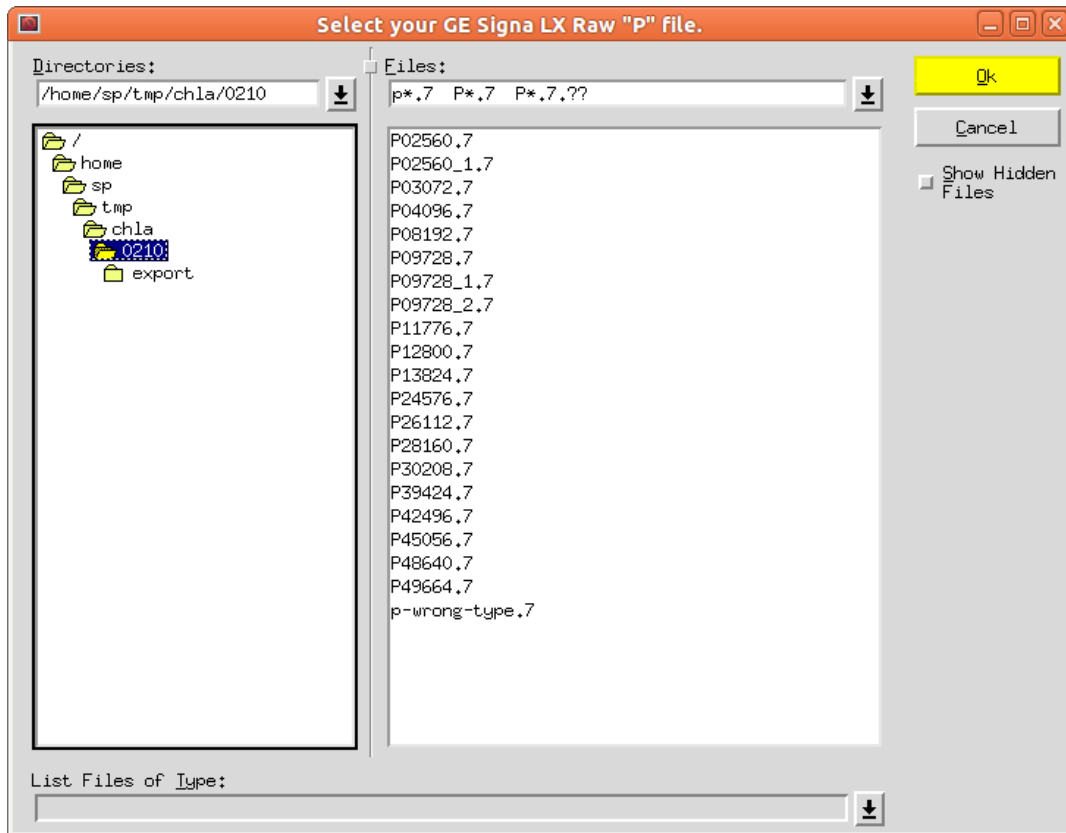
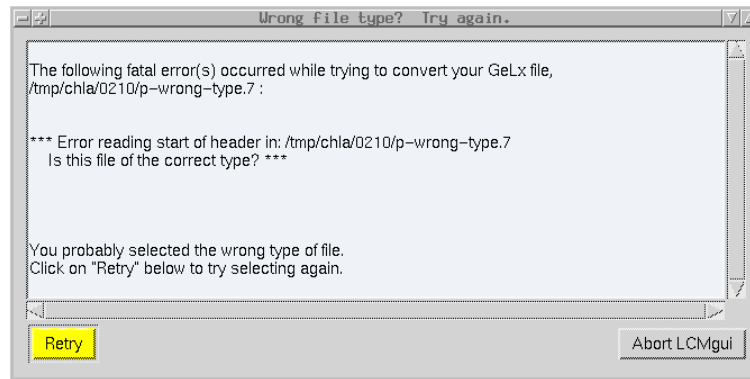
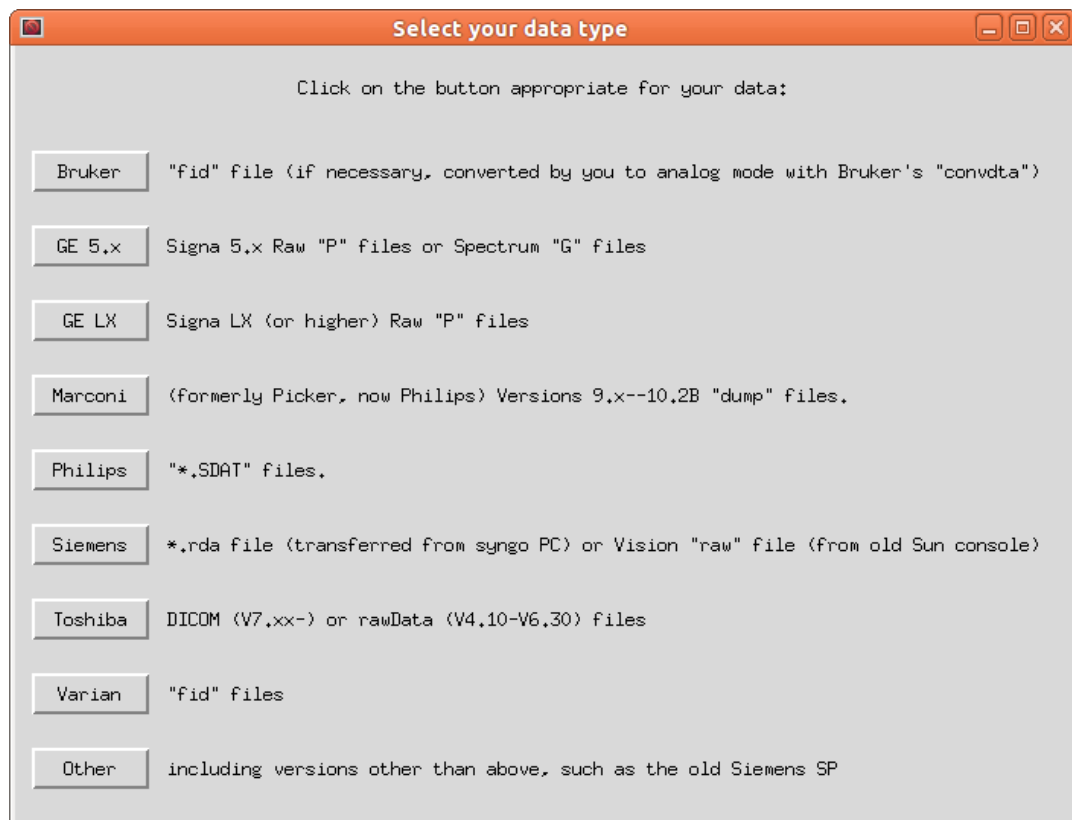
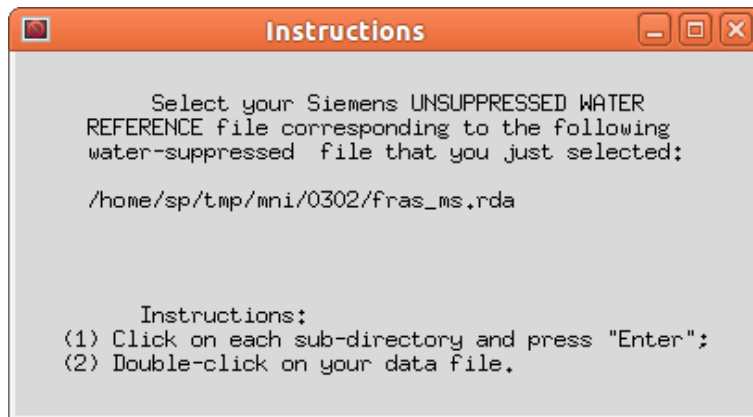

Figure 6.1: The File Selector, shown here for GE LX files
Figure 6.2: You selected a file of the wrong type in the File Selector
Figure 6.3: Note that GE Signa 5.x and LX (or higher) have distinct buttons.
Figure 6.5: The instructions-part of the File Selector for the unsuppressed water reference.
- Select the file containing the data to be analyzed (Fig 6.1 in Sec 6.2.1).
When LCMgui is started, the first window that appears is usually the *File Selector*. An example with GE Signa LX data is shown in Fig 6.1. With data from other manufacturers, the title, “Select your GE Signa LX ...” will be different. LCMgui remembers the directory where the data file was in the last run, and the File Selector starts there.
If the last LCMgui session did not use Bruker, GE, Marconi/Picker, Philips, Siemens, Toshiba or Varian data, then the window in Fig 6.3 will appear first. You normally then click the “Other” button in Fig 6.3, as you did in the previous session.
You first navigate through the directory tree. When you click on a directory, its files are listed in the right pane (the stage shown in Fig 6.1). You then click on the filename that you want to use and click the yellow “OK” button at the right (or simply double-click on the filename).
Only filenames that match the filter shown at the top of the pane of filenames (p\*.7, P\*.7 or P\*.7.??) in Fig 6.1) are displayed. If your filename differs from this standard (e.g., if you analyzed GE Signa 5.x data last time and LX data this time), then it will not be listed. You can change
If the filenames or directories in Fig 6.1 are so long that they are cut off, then the width of the panes can be adjusted by holding the left mouse button down on the small square at the top on the pane boundary (between “**Directories:**” and “**Files:**”) and dragging the pane boundary. (You can also simply use the scroll bar that appears at the bottom of the pane when names are too long.)
LCMgui remembers what type of data was analyzed from this account and User Profile the last time, and it expects the same type this time. You therefore get a window like Fig 6.2 if in the File Selector you:
- Select a completely irrelevant file (e.g., `p-wrong-type.7` in Fig 6.1 to produce Fig 6.2).
Otherwise, click the yellow “Retry” button in Fig 6.2. A window like Fig 6.3 appears. Here you click on the appropriate type of data. The File Selector then returns, giving you another chance to select your data file.
**Select unsuppressed water reference file** If the “Do eddy-current correction” button is active (blue), the File Selector window appears (unless you have Marconi/Picker files or GE Probe P-files, which already contain the water reference). It is exactly as in Fig 6.1, except for the window of instructions at the upper left (Fig 6.5). As you can see from Fig 6.5, the filename of your currently selected water-suppressed data is shown, and you must select the corresponding unsuppressed data file.
- (1) **File Selector.** You select the file containing your (binary scanner) data to be analyzed with the window in Fig 6.1.
- (2) **Data Conversion.** A program is executed to produce the LCModel `.RAW` file and any available Control Parameters (e.g., `NUNFIL`, `DELTAT`) from the file selected in Step (1). You can specify this program to be the standard LCMgui program for the standard Bruker, GE, Marconi/Picker, Philips, Siemens, Toshiba or Varian files (Sec 3.7). However, there is also an “Other” button to use a script supplied by you for another type of file.
- (3) **Preprocessor.** Even if you specify one of the standard programs for Step (2), you can still supply your own script in this step to modify the `.RAW` file or Control Parameters from Step (2). (The original default, when LCMgui is installed, is to use no Preprocessor.)